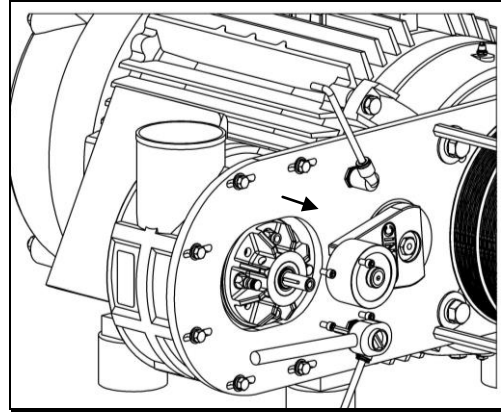
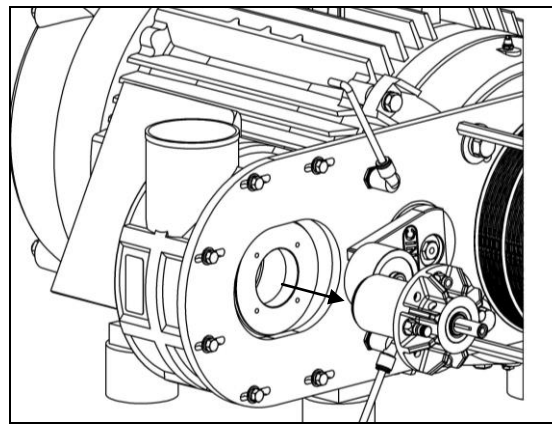
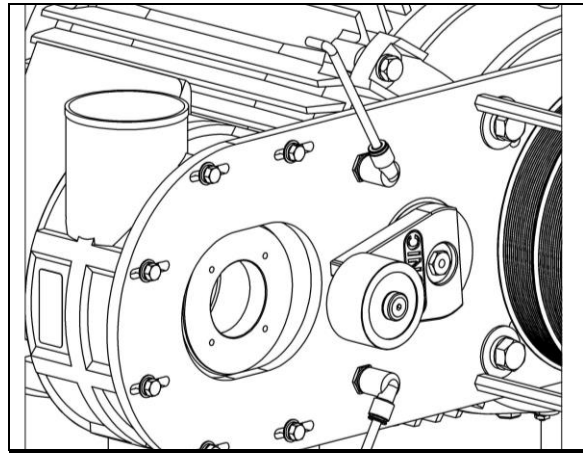

Figure 38 - Remove Bearing Cartridge Hardware
Figure 40 - Remove Bearing Cartridge
Figure 42 - Blower w/ Bearing Cartridge Removed
9. Remove compression fitting using a 1/2 inch deep socket. (See Figure 40.)
10. Remove bearing cartridge using a 3/16 inch allen wrench. (See Figure 38 - Remove Bearing Cartridge Hardware, Figure 40 - Remove Bearing Cartridge, and Figure 42 - Blower w/ Bearing Cartridge Removed)